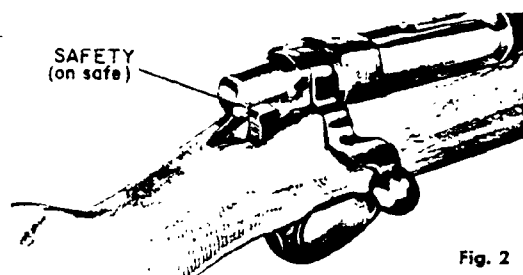

Fig. 2
**SAFETY** — (Fig. 2) Close bolt and rotate safety rearward to ON SAFE position. Side lever type safety is located at right rear of receiver. With safety in rear stop position, trigger cannot be pulled to fire rifle. When safety is ON SAFE bolt handle cannot be raised to unlock and open action.